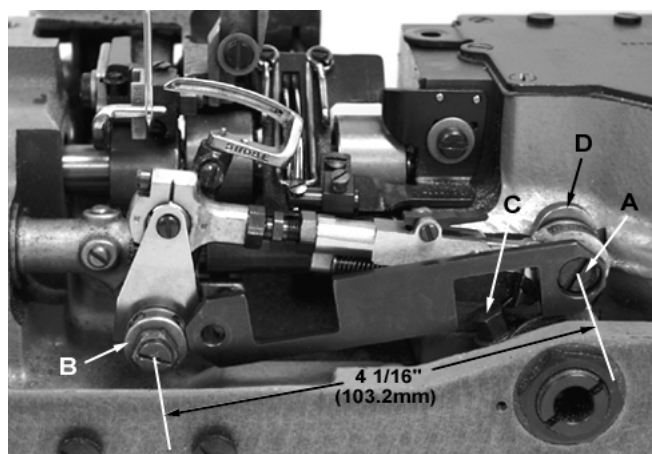

Fig 5
With the looper at extreme right end of travel, check location of the right looper connecting rod bearing using gauge No. TT35. Place large hole of gauge over threaded stud (A, Fig. 5). The left end of gauge should locate against the RIGHT side of looper rocker cone (B). If adjustment is necessary, loosen clamp screw (C) and reposition looper drive lever (D) as required, then tighten screw (C).
If gauge is not available, check setting with a scale. Distance between the centerline of rocker cone and centerline of looper drive lever stud should be 4 1/16 inch (103.2mm) as shown in Fig. 5 when looper is at its extreme right end of travel.